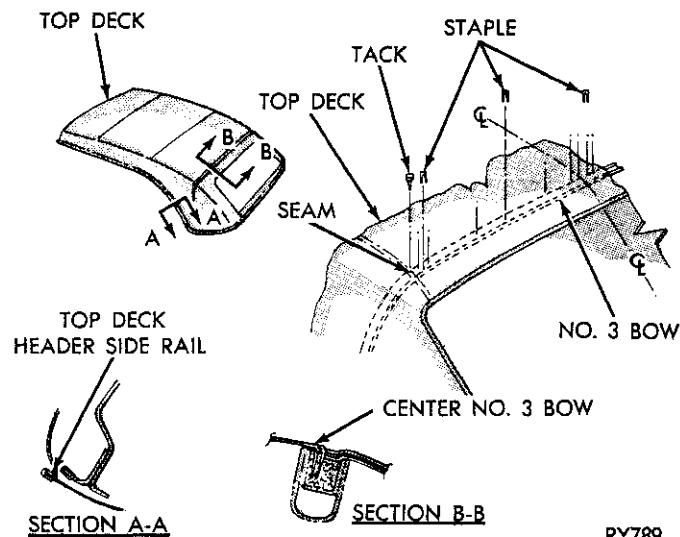

Fig. 18—Top Deck to No. 3 Bow
(3) Open top and adjust to body.
(4) Position center, and side to belt bar retainer and tacking strip to trim.
(5) Apply even coats of adhesive to upper rear flange, header, header center welt, and header side welts. Install center and side welts to header flange.
(6) Assemble stay pad to header using adhesive. Install screw to header.
(7) Assemble top stay pad to Number 1, 2 and 3 bows.
(8) Assemble rear curtain to Number 3 bow, belt bar retainer and tacking strip.
(9) Assemble rear curtain stay straps to Number 3 bow, belt bar retainer, and tacking strip.
(10) Assemble side tension cable to deck and side quarter assembly pocket.
(11) Assemble tape to rear rail top material retainer. Apply an even coat of adhesive to trim retainer and top fabric. Bond fabric to trim retainer. Assemble retainer to rear rail.
(12) Secure side tension cable at front and rear using screws.
(13) Position and secure top deck and side quarter assembly to Number 3 bow. Assemble side quarters to belt bar tacking strips (Figs. 18 thru 21).
(14) Assemble top deck and side quarter assembly to header and rear side rail trim retainer.
(15) Assemble retainer weatherstrip to header.
(16) Assemble wire on binding to Number 3 bow.
(17) Position top to body. Adjust belt bar retainers as necessary to avoid wrinkles in top material.
(18) Apply an even coat of adhesive along underside of front face well cover and at area where as-
Top Deck To No. 3 Bow (Fig. 18)